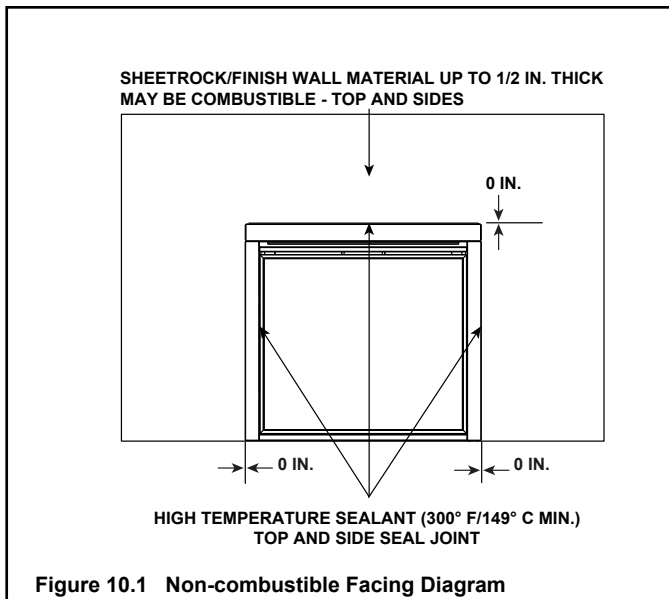
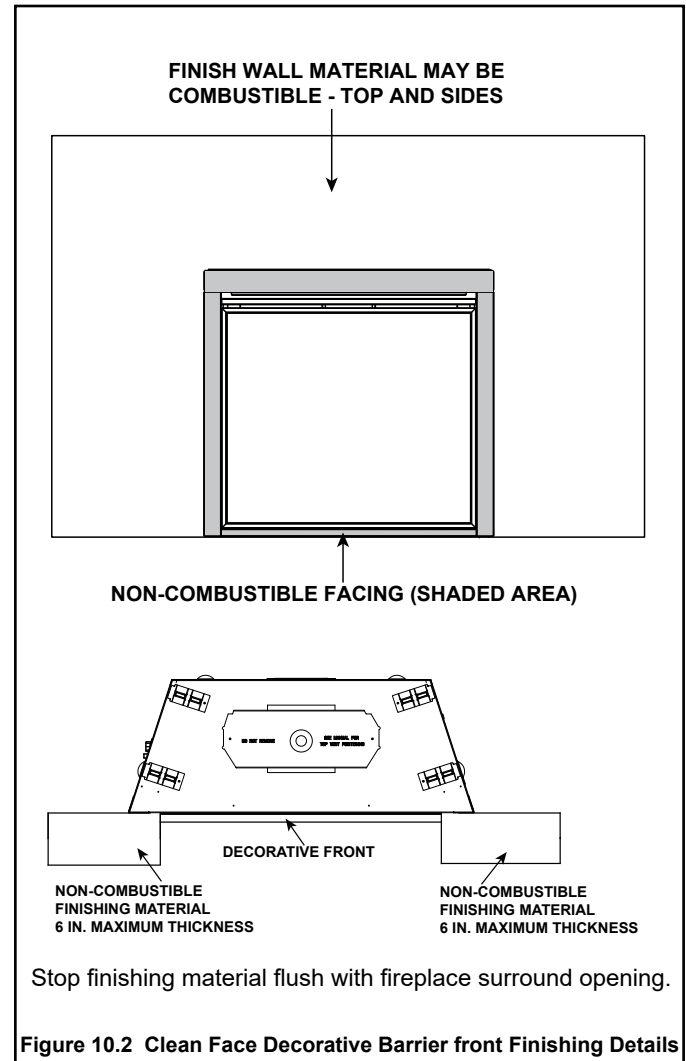

Figure 10.1 Non-combustible Facing Diagram
Figure 10.2 Clean Face Decorative Barrier front Finishing Details
- Seal gaps between the finished wall and appliance top and sides using a 300 °F minimum sealant. Refer to Figure 10.1 and Figure 10.2.
Non-combustible facing up to 6 inches thick may be used. Stop finishing material flush with fireplace surround opening. See Figure 10.2.